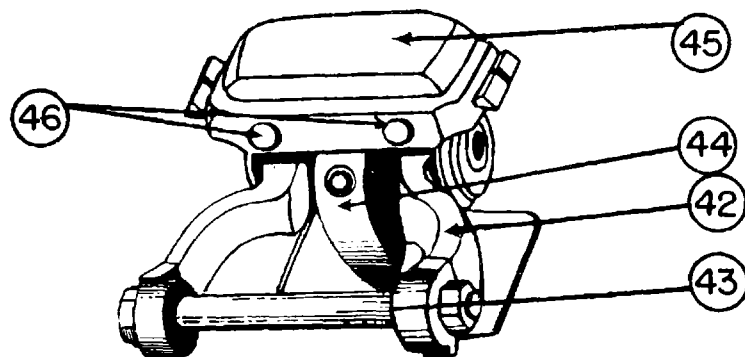

Fig. 1
An example is shown in the accompanying sketch, figure 1. The various sections of plywood are cut out, partly shaped by soaking in water, and nailed or riveted into position. The stern of the sled is braced by a 3/4-inch-thick wooden batten secured at each end by strips of 1/64-inch strap iron. Dimensions and design are varied to suit the purpose for which the sled is built, but in every case the sled should be as light as possible.
Each track is made up of 40 forged steel links (42) (fig. 1) joined together by a bolt (43). These link joints are lubricated from oil chambers (44) which also, in part, form the tongues of the track links and pass between the rims of the bogie wheels. Above the oil chambers and track bolts, rubber shoes (45) are mounted. These are easily replaceable, being retained by 4 screws (46) only.